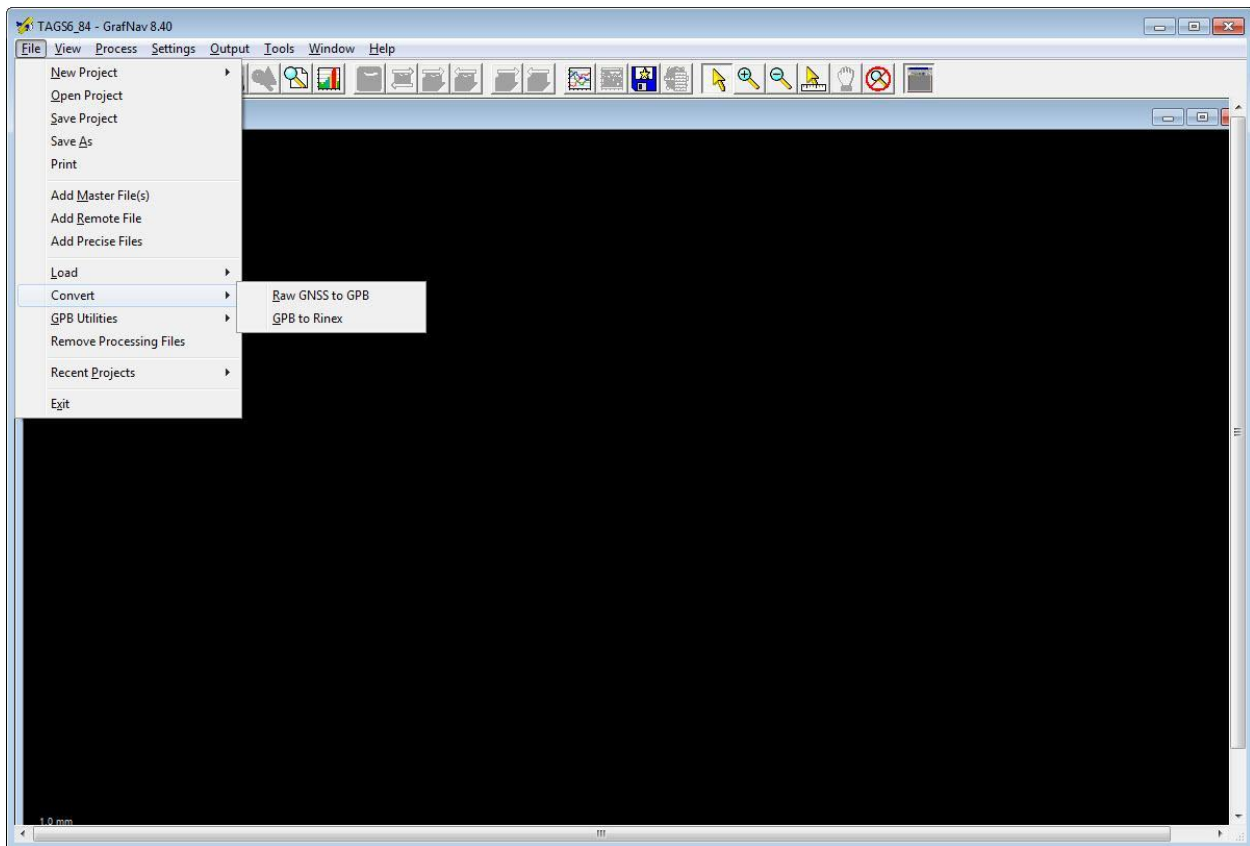
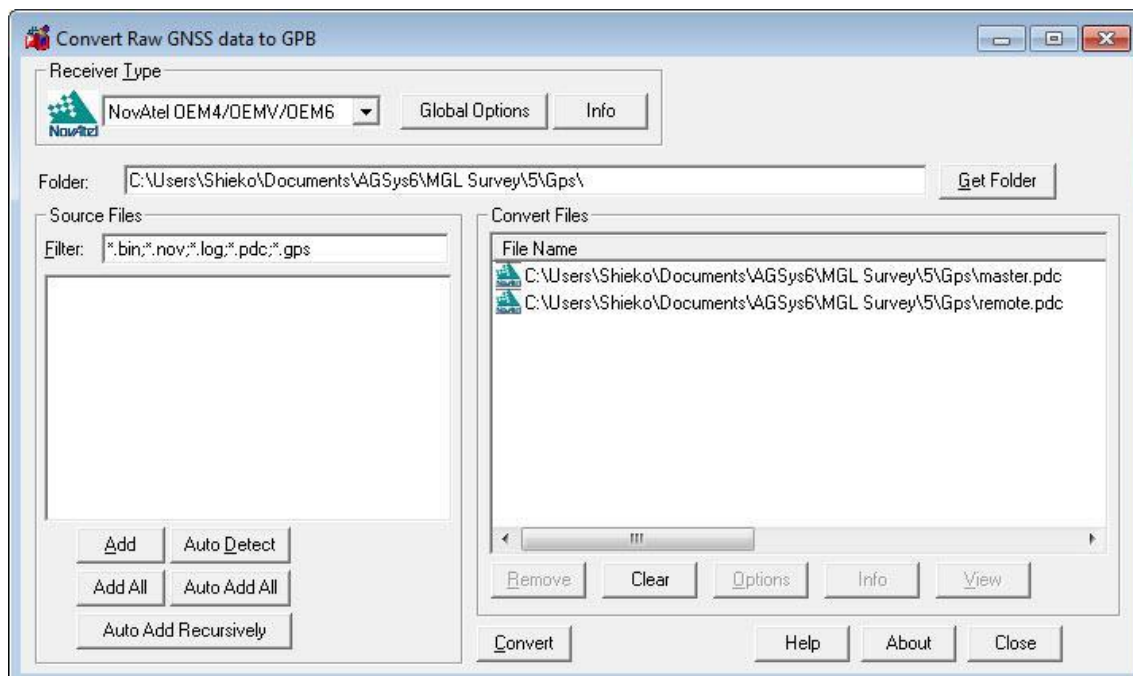

Figure 7-2 TAGS6 84 - GrafNav 8.40 Window
Figure 7-3 Convert Raw GNSS Data To GPB Dialog
In the main GrafNav window (Figure 7-2) from the **File** menu, **Convert** option list, select the **Raw GNSS to GPB** option. Configure the conversion setup options in the **Convert Raw GNSS data to GPB** dialog (Figure 7-3).
- In the main GrafNav window (Figure 7-2), select **Add Master File(s)** under the **File** menu.